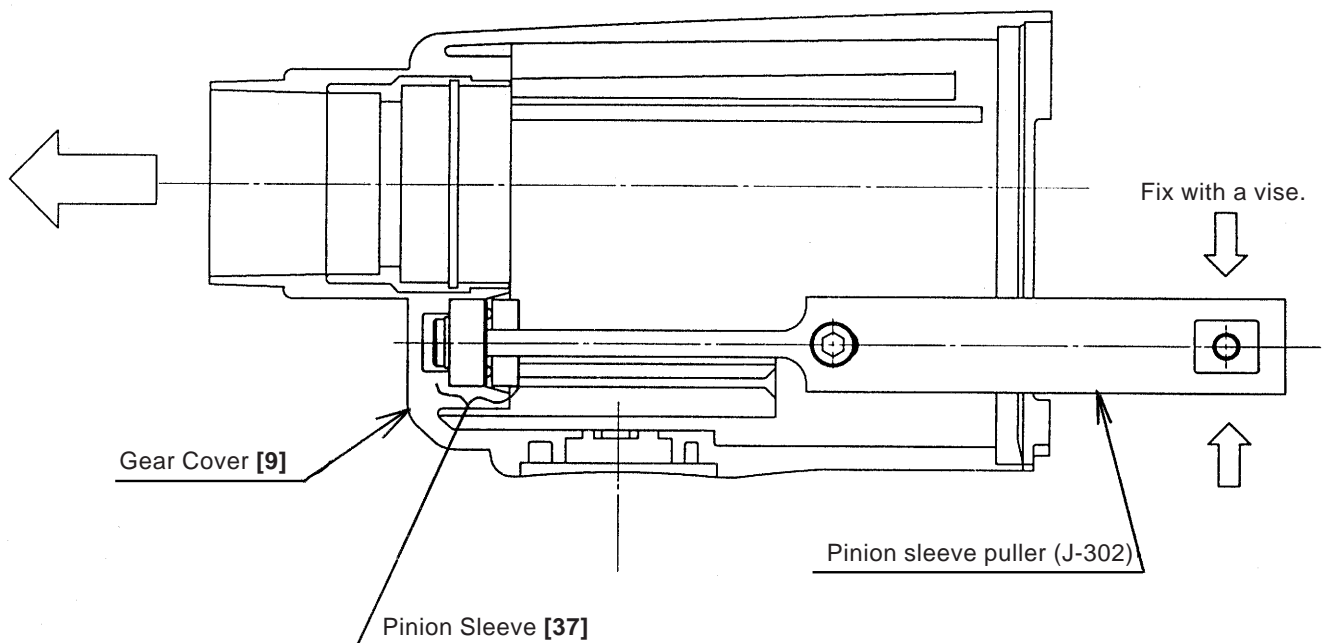

Fig. 6
- Pinch the Pinion Sleeve [37] with the pinion sleeve puller (J-302) and fix the pinion sleeve puller to a vise. Pull the Gear Cover [9] to remove the Pinion Sleeve [37] from the Gear Cover (Fig. 6).